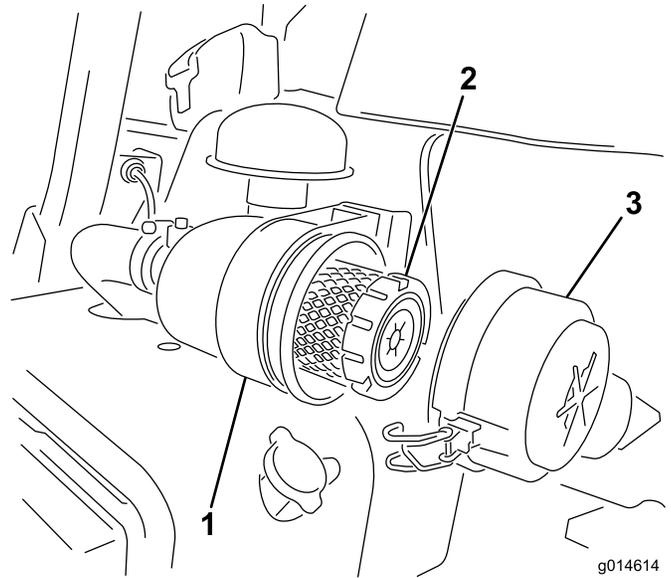

Figure 44
1. Release the latches securing the air cleaner cover to the air cleaner body (Figure 44).
- Secure the latches (Figure 44).